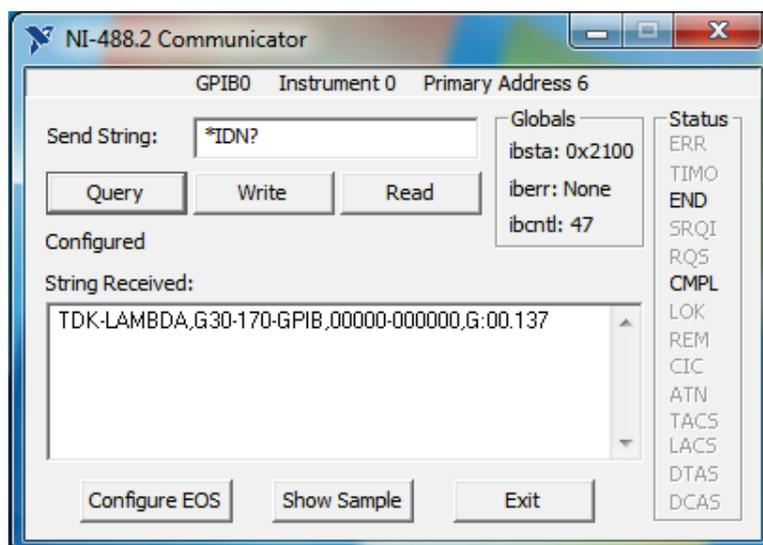

Figure 7–6: ID String Query
- Click Query. Refer to Figure 7–6.